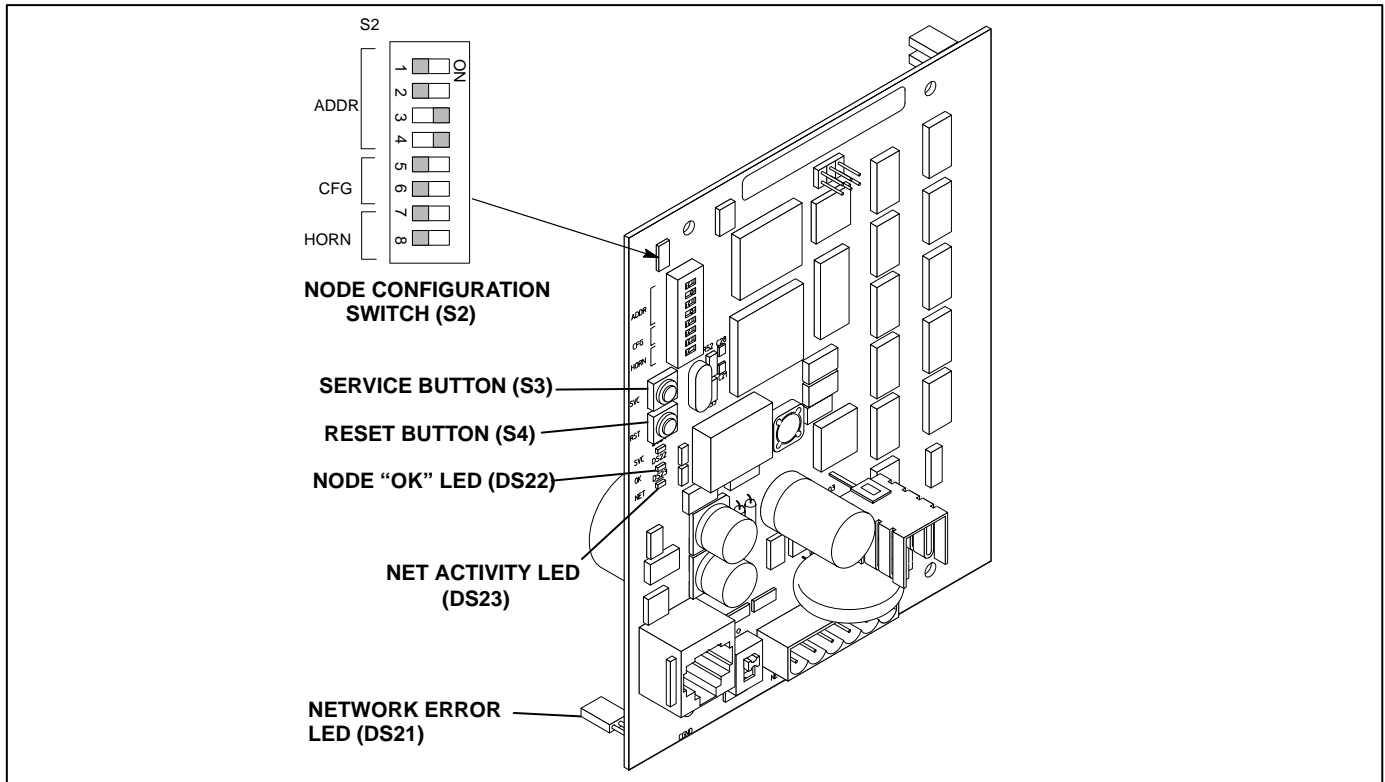

FIGURE 6. ANNUNCIATOR SWITCHES AND LEDs (EXAMPLE OF NODE ADDRESS = 3)
Example: To set up a *Node Address* of 3, set switch node configuration switch S2 as follows: S2-1 OFF, S2-2 OFF, S2-3 ON and S2-4 ON (binary setting 0011=0+0+2+1=3 decimal). See Figure 6 and Table 2.
Be sure to assign each node in the network a unique address. The *Node Address* can be verified by counting the number of pulses of the “OK” LED (DS22). See Figure 6.
Switch S2-7 enables the horn (see Figure 6). If enabled, switch S2-8 is used to control the horn volume. The horn settings take place immediately and the node does not have to be reset.
7. Press and hold the *Silence/Lamp Test* button (see Figure 1) or the Service button (S3) (see Figure 6) until the *Network Status* lamp (see Figure 1) begins flashing (amber).
To verify the genset has installed itself properly and is bound to the ATS, disconnect the J1 data cable from the engine interface board. The “Network Error” LED (DS21) (see Figure 6) should turn on (red) within 10 seconds. This indicates communications have failed and that the device was properly bound.